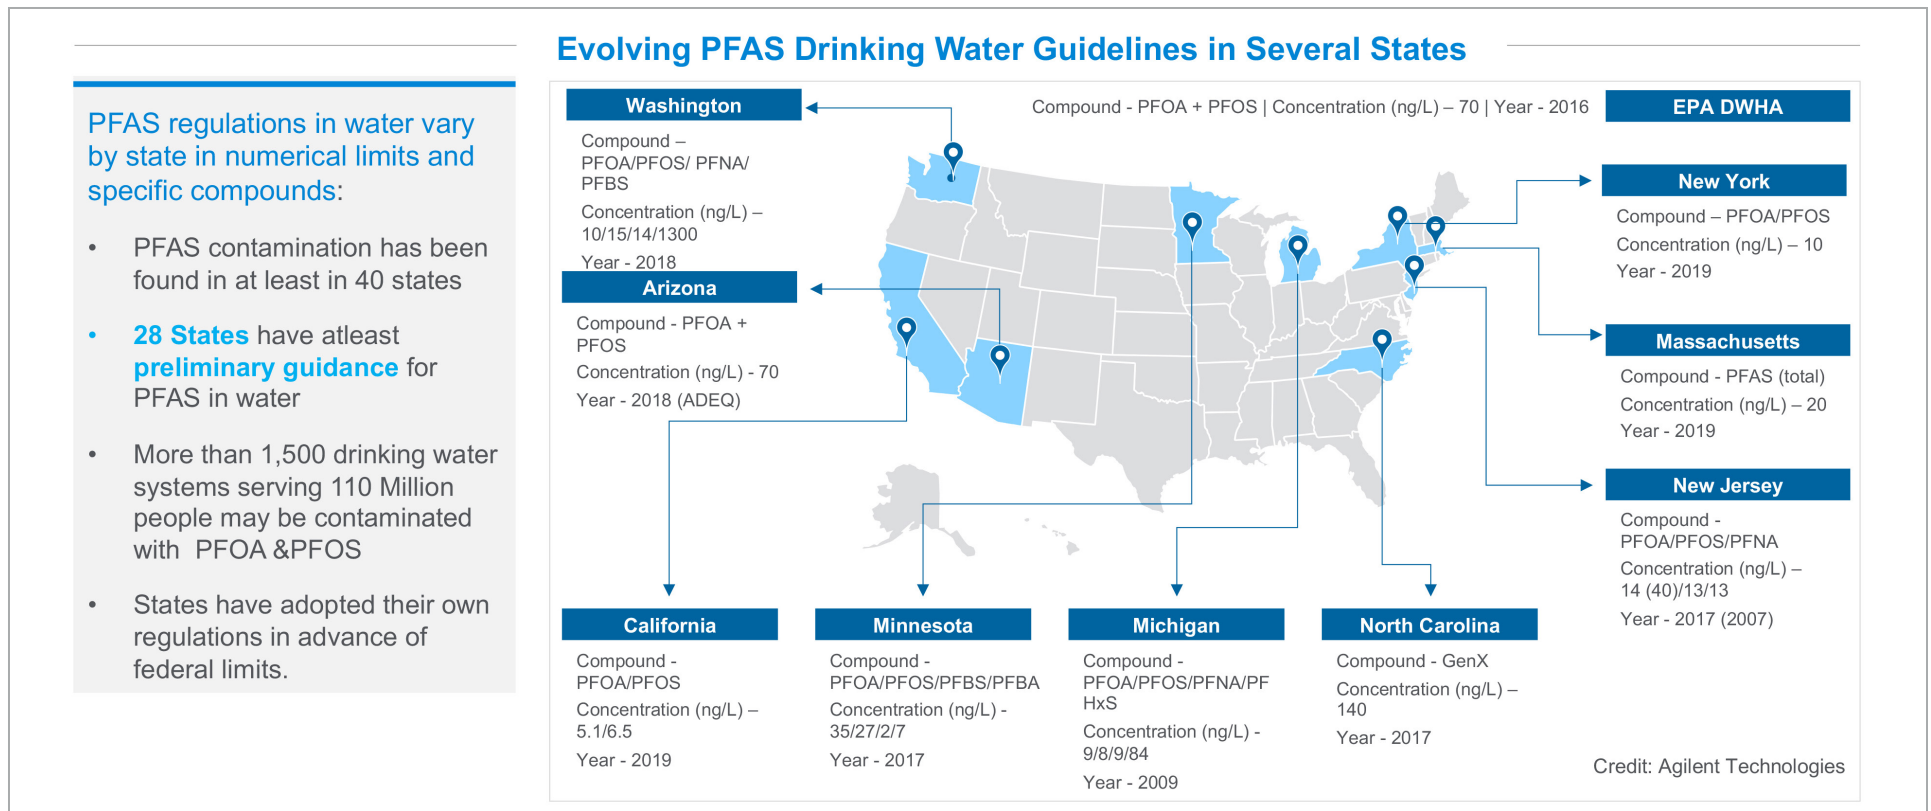

Figure 2. Global PFAS drinking water guidelines.
- In the United States, the US Environmental Protection Agency (EPA) has established a drinking water health advisory level for PFOS and PFOA at a combined 70 ppt (ng/L). Over 20 states have their own advisories for PFOA, PFOS, and other PFAS, such as perfluorononanoic acid (PFNA) and GenX, at the low ppt range in drinking water (see Figure 2). Other initiatives to regulate PFAS are also in the works. These initiatives include the PFAS Action Act (Jan 2019), the US EPA PFAS Plan (Feb 2019), and the US EPA Commitment to PFAS Drinking Water Standards (Feb 2019).